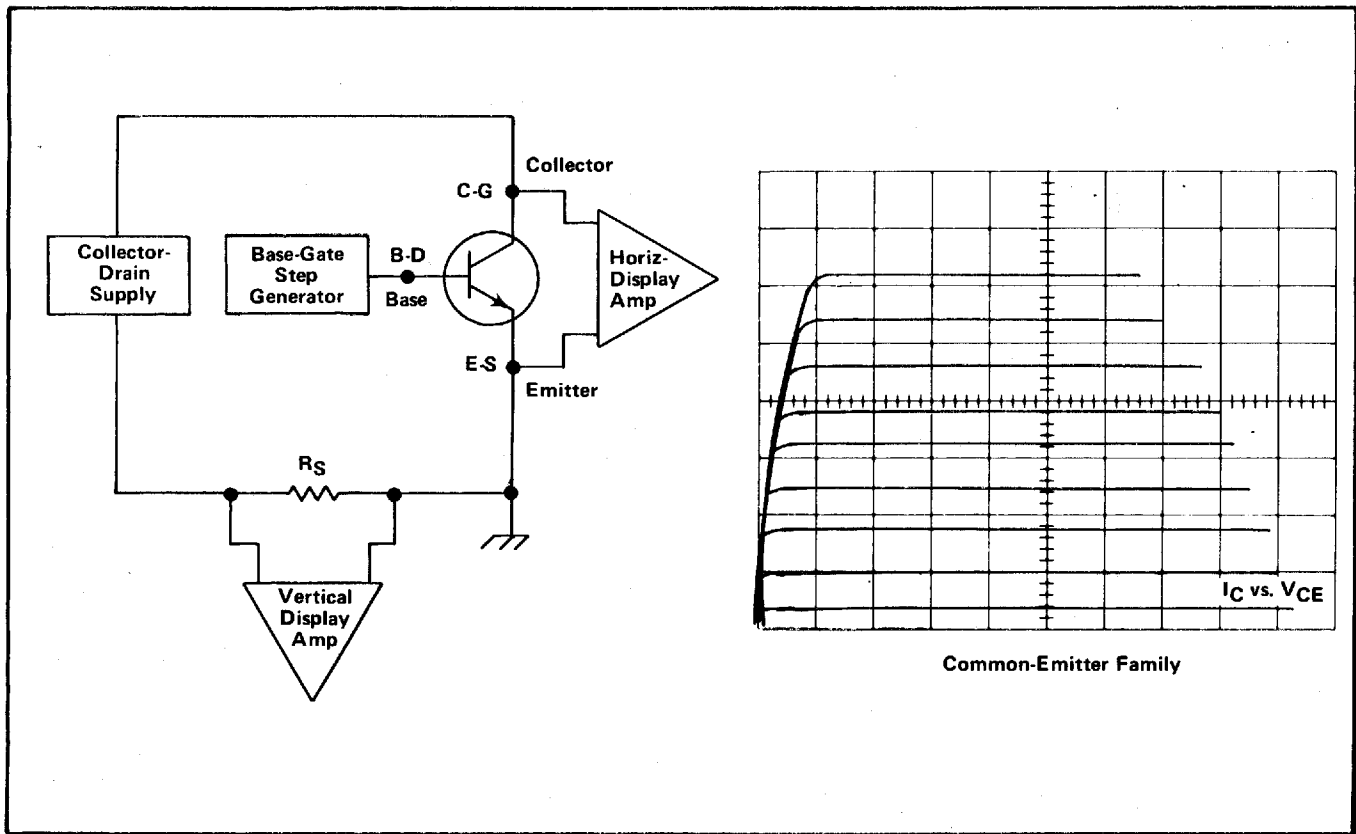

Fig. 1-4. Simplified diagram showing the connection of a bipolar transistor to the 7CT1N and a typical display.
**Installation.** Connect the transistor to the device testing jacks through the transistor-FET adapter which is included with the 7CT1N. This adapter accepts TO-5 and TO-18 type cases. For devices which do not match this adapter, connect the leads to the jacks as shown in Fig. 1-4.
Turn the COLLECTOR/DRAIN VOLTS control clockwise to obtain a horizontal trace of about 5 divisions. Turn the STEP AMPL switch clockwise until a display similar to that shown in Fig. 1-4 is obtained.